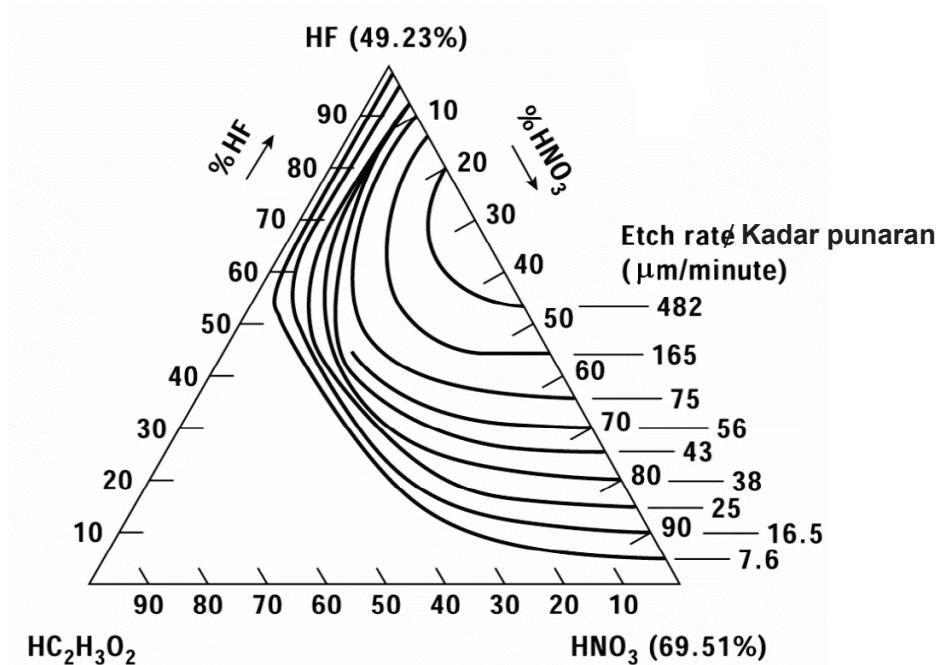

Figure 1: Schematic diagram of the etch rate for silicon in HF and HNO3 at room temperature
- (c). An etching solution containing mixture of 15% of  $\text{HNO}_3$ , 80% of HF and 85% of  $\text{HC}_2\text{H}_3\text{O}_2$  is used to etch silicon. Refer to Figure 1, estimate the etch rate for this solution at room temperature and also discuss the surface topography of the etched silicon surface.